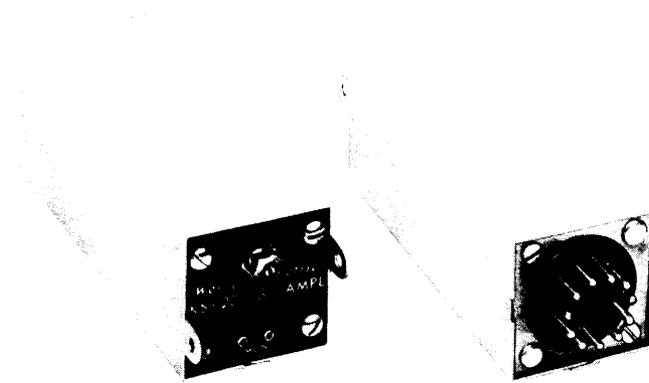

Fig. 1—KS-20378 Amplifier
1.07 The KS-20378 L1 and L2 amplifiers are designed for mounting on a shelf per J98615 on 1-3/4 inch centers or any V3 repeater shelf. Overall dimensions are approximately 1 5/8 by 1 5/8 by 5 inches long. (See Fig. 1.)